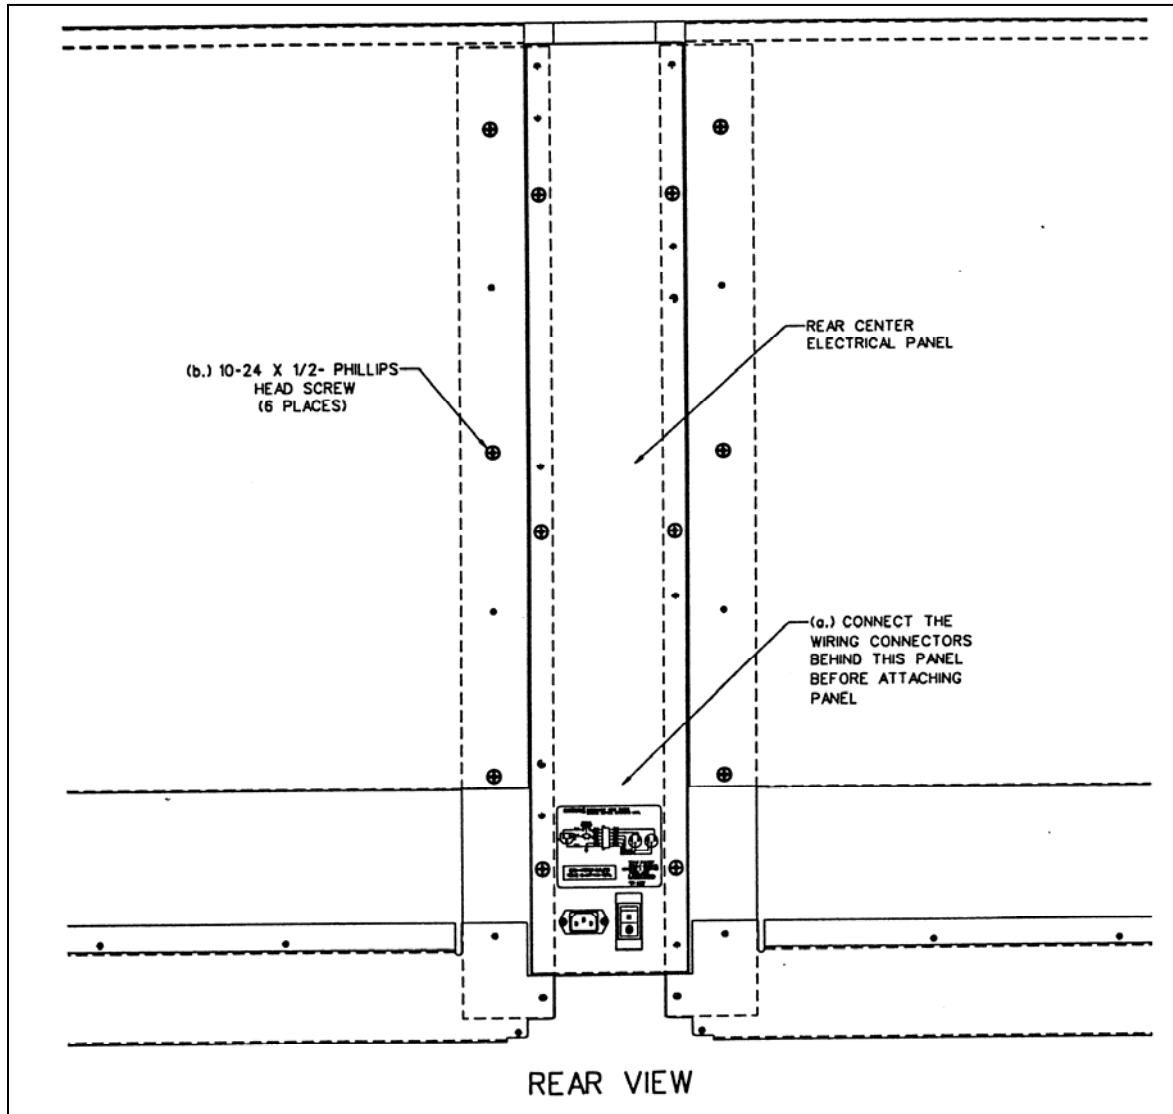

Figure 8
Step 6. Installation of rear center electrical panel. See Figure 8